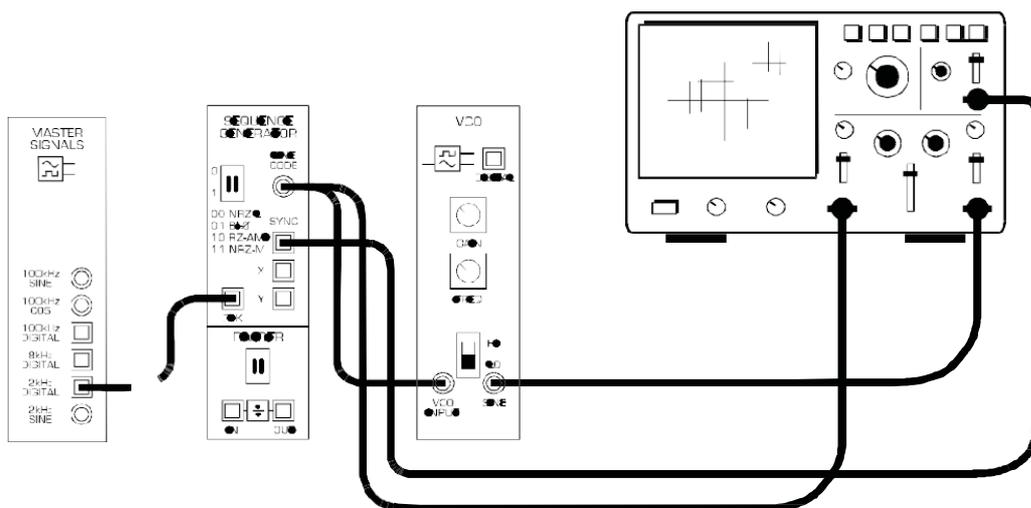
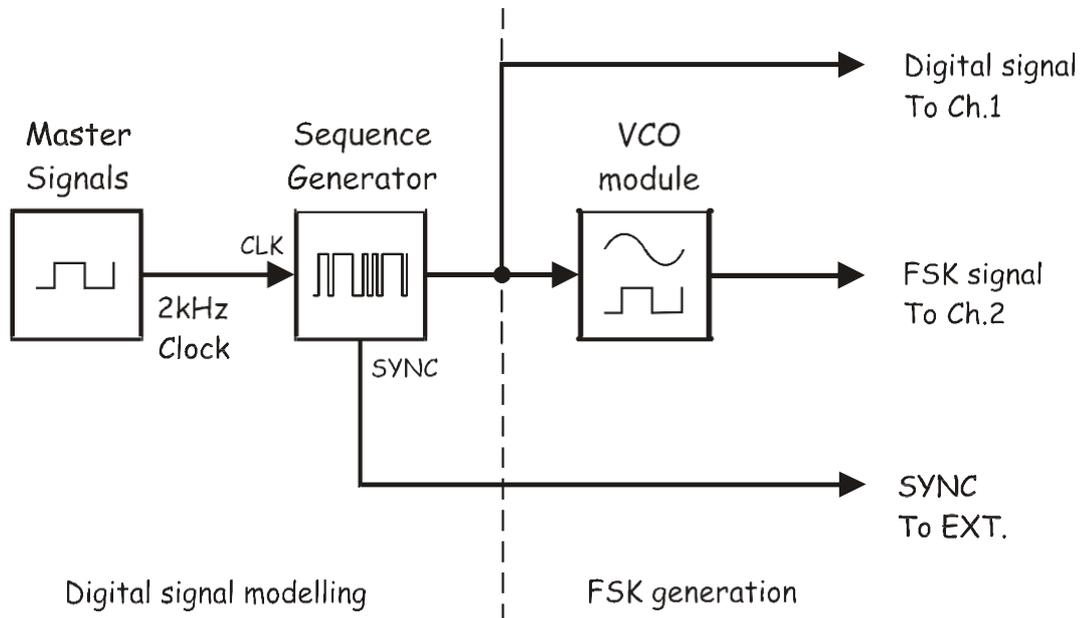

Figure 2: the set-up for an FSK signal generation
Figure 3: block diagram of Figure 2
5. Connect the set-up shown in Figure 2 below.
The set-up in Figure 2 can be represented by the block diagram in Figure 3 below. The Sequence Generator module is used to model a digital signal and its SYNC output is used to trigger the scope to provide a stable display. The VCO module is used to generate the FSK signal.